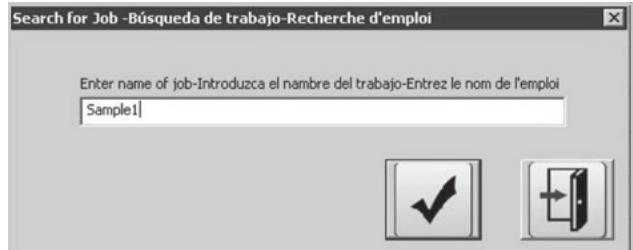
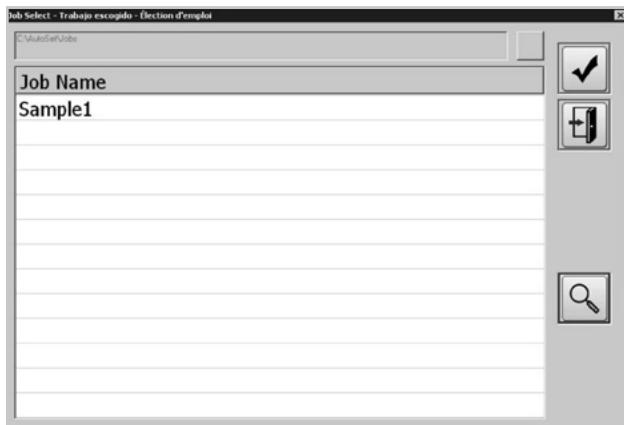

Figure 28
Figure 29
- A popup window will appear to enter job name to search (Figure 28)
- Click the Select Job icon (Figure 28) to see if the job is found (Figure 29)